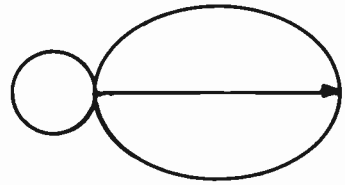

FIG. 17-16. DIRECTIONAL PATTERN.
If element B is made approximately 5% shorter than element A and is spaced approximately .2 of a wavelength away from A, the radiation pattern of the half-wave dipole is altered considerably. Most of the energy is radiated in one direction, the direction of the new element. We now refer to the directional pattern as unidirectional (one direction). See Fig. 17-16. The original dipole element (A) is called the driven element. The new element (element B) is called a "director" because most of the energy is radiated in its direction.